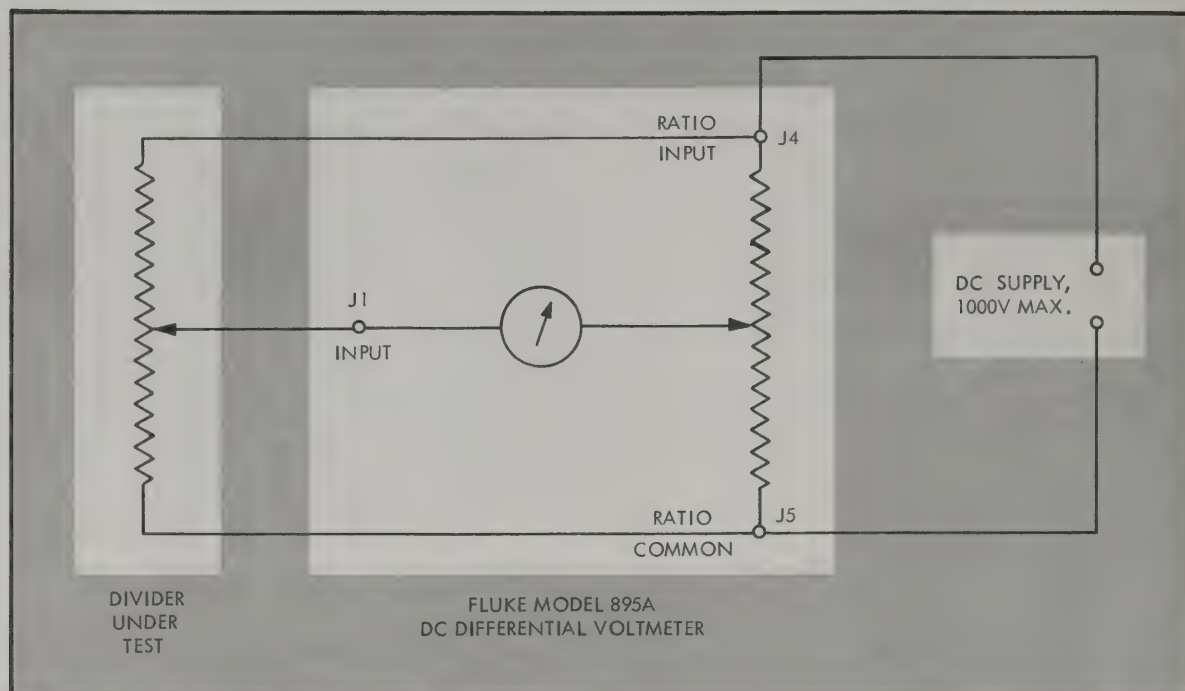

Figure 2-6. MEASUREMENT OF RESISTANCE RATIOS
b. The equipment connection is illustrated in Figure 2-6. The output of the test divider is applied to the INPUT post, and the input terminals of the test divider, and output of the power source, are connected to the RATIO terminals.